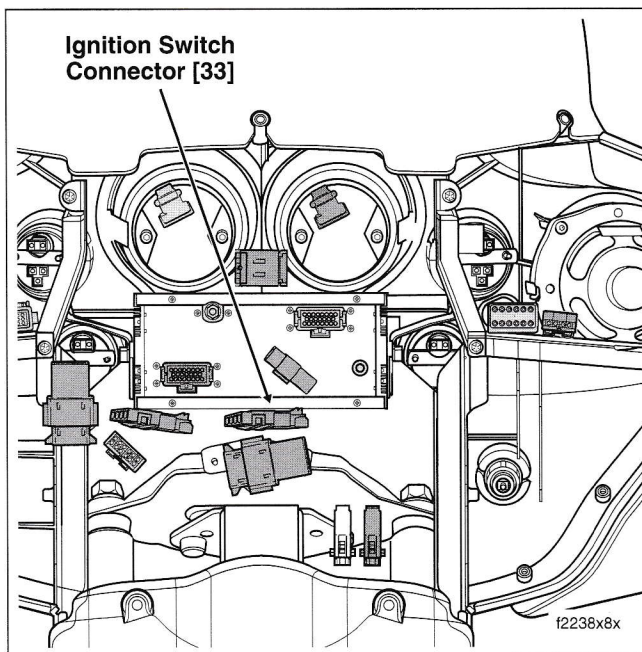

Figure 8-65. Ignition Switch Connector Location (FLHT/C/U)
8. Locate the Ignition switch connector [33], 4-place Packard, at bottom of radio. Slide connector off anchor and separate pin and socket halves. See Figure 8-65.
2. Route the Ignition switch connector [33], 4-place Packard, to front of inner fairing. Mate pin and socket halves of connector and install onto anchor at bottom of radio. See Figure 8-65.